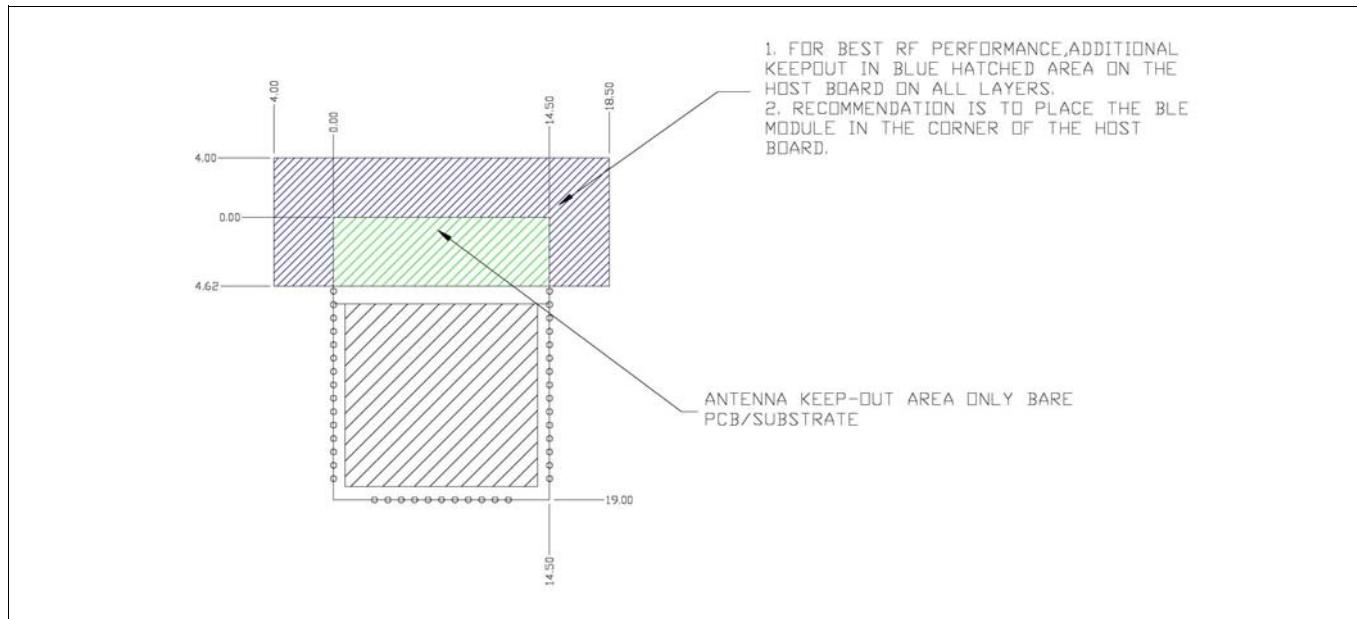
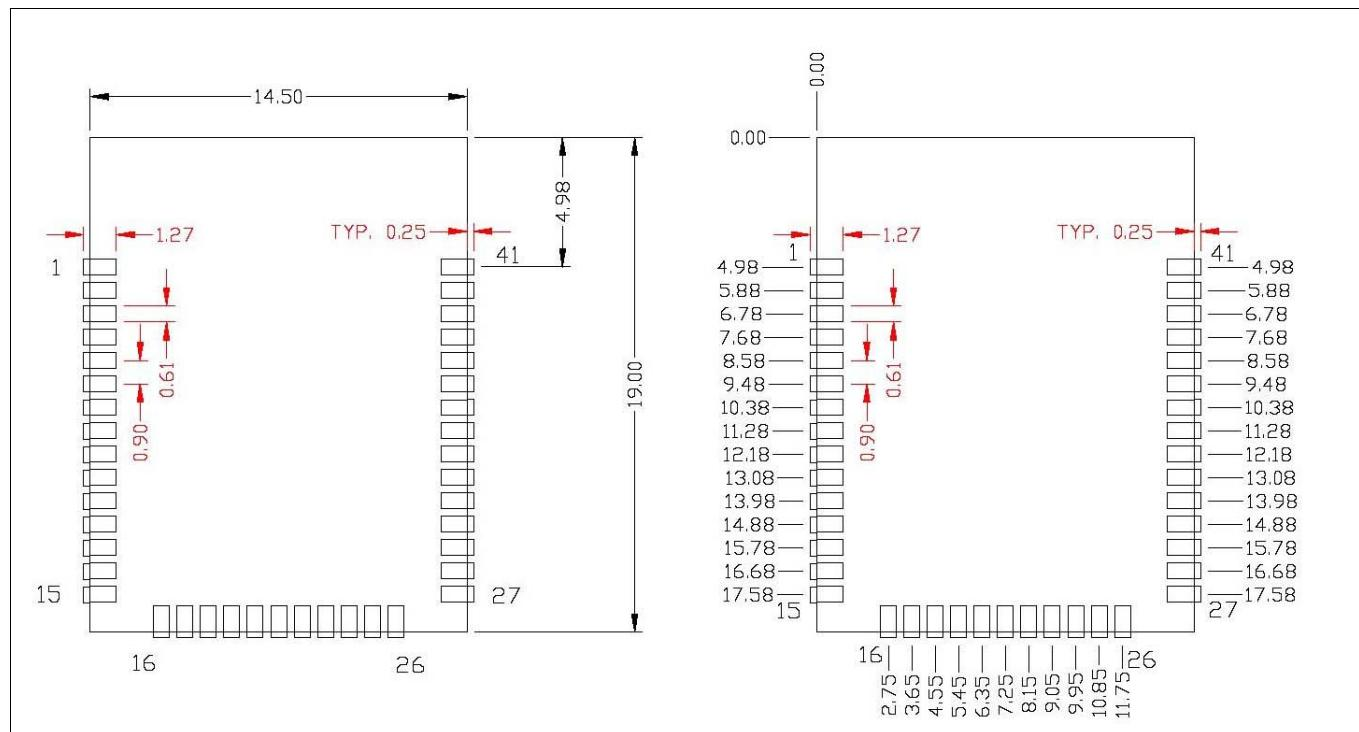

Figure 4 Recommended host PCB keepout area around the CYW20829B0-P4XXI100 antenna
Figure 5 CYW20829B0-P4XXI100 host layout (dimensioned)
1. Antenna Area Keepout: The host board directly below the antenna area of the module (see **Figure 4**) must not contain ground or signal traces. This keepout area requirement applies to all layers of the host board.
2. Module Placement: The ideal placement of the Bluetooth® module is in a corner of the host board with the PCB trace antenna located at the far corner. This placement minimizes the additional recommended keepout area stated in item 2. Refer to **KBA97095** for module placement best practices.
Figure 5 provides details that can be used for the recommended host PCB layout pattern for the CYW20829B0-P4XXI100. Dimensions are in millimeters unless otherwise noted. Pad length of 1.27 mm (0.64 mm from center of the pad on either side) shown in **Figure 4** is the minimum recommended host pad length. The host PCB layout pattern can be completed using either **Figure 5**. It is not necessary to use all figures to complete the host PCB layout pattern.